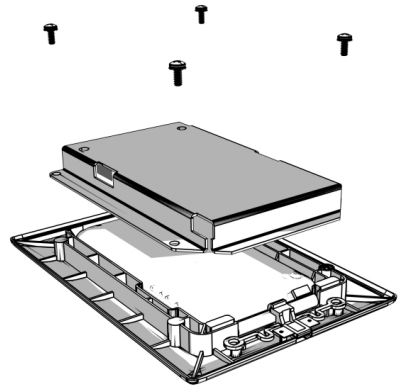

Figure 7: Attach Back Plate
12. Place back plate over iPod and secure with 4 screws. The back plate has a foam pad to hold the iPod touch very securely. See Figure 7